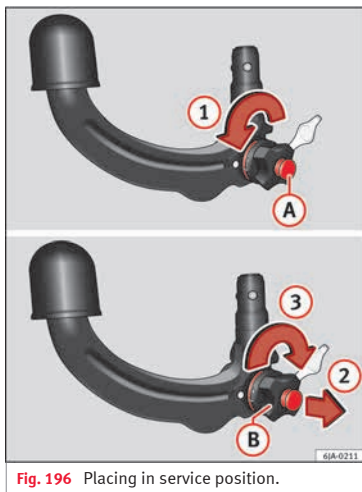

Fig. 196 Placing in service position.
- Turn key **A** fully in the direction of arrow **1** » Fig. 196.